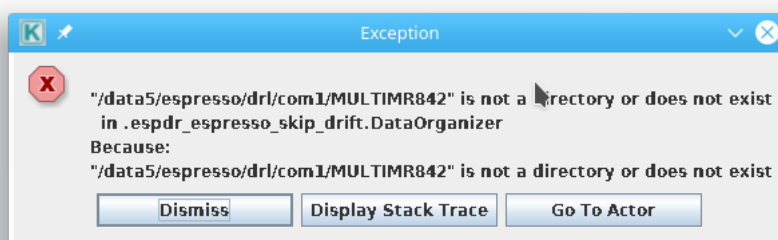

Figure 9.0.1: *TheDataOrganizer* interactive window reports an error “:No DataSets have been created, check the DataSet and the OCA rules.”.
**(b) it fails with error message “:No DataSets have been created, check the data set and the OCA rules.” (see Figure 9.0.1).**